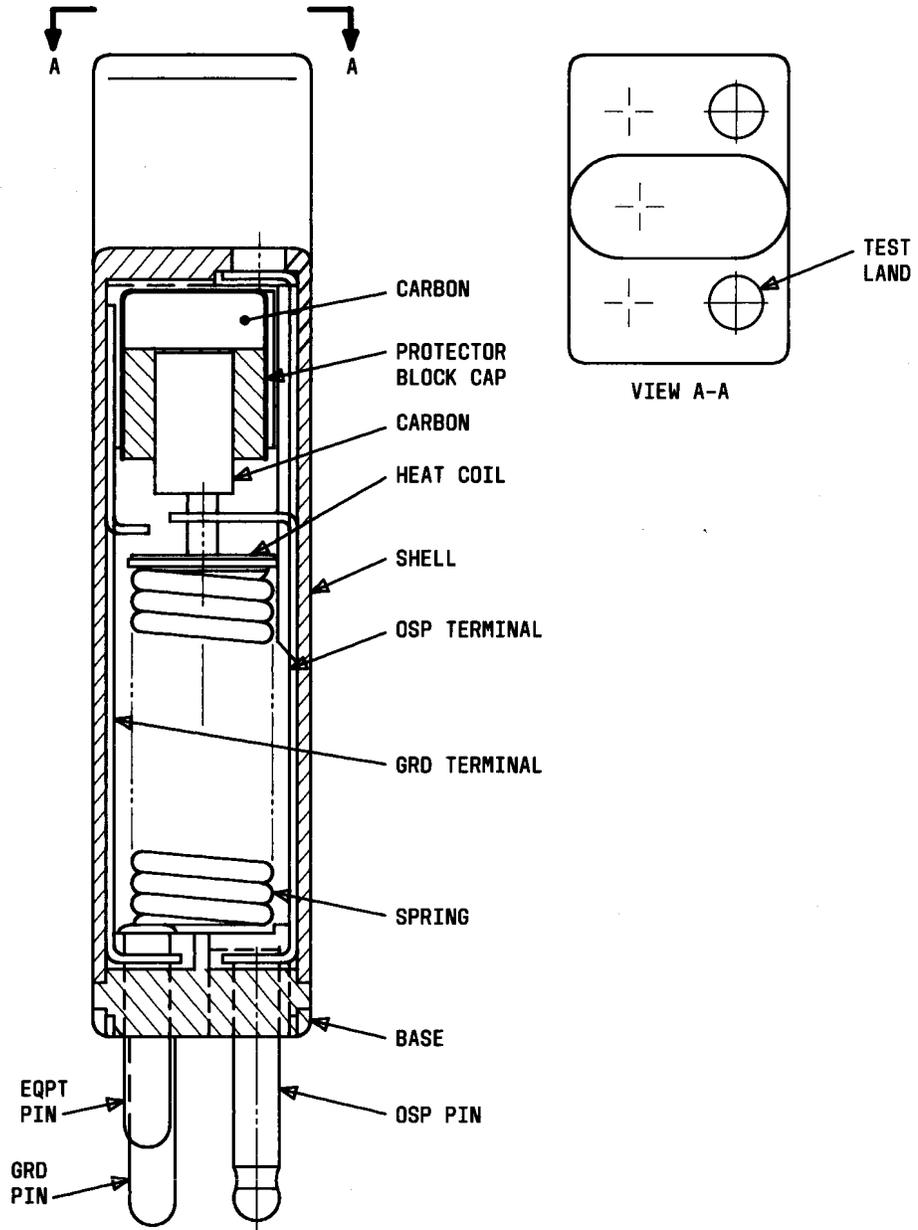

Fig. 7—4c-Type Protector Unit
4.01 The 4C protector units (Fig. 7) are used on the 307 connector. They provide either voltage and current protection or no protection. Seven protector codes are available for specific service applications. Each code is identified by color. The protectors and their application are identified in Table B.